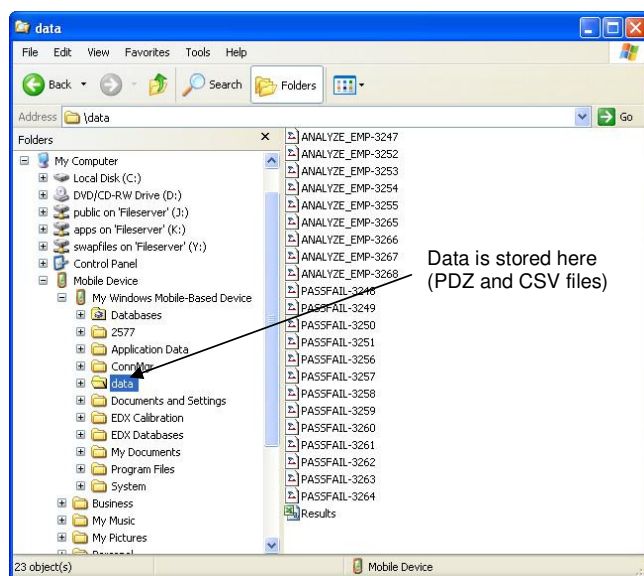

Figure 5.21: Example of File Explorer
- Open "My Computer" and double-click the PDA (Mobile Device) icon (see Figure 5.21). The PDA directory is: